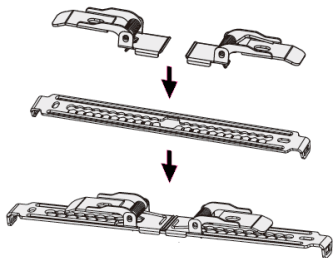

Fig.2
- Insert the springs into the bracket and slide to the required position according to the size of the cut-out (see Fig. 2)